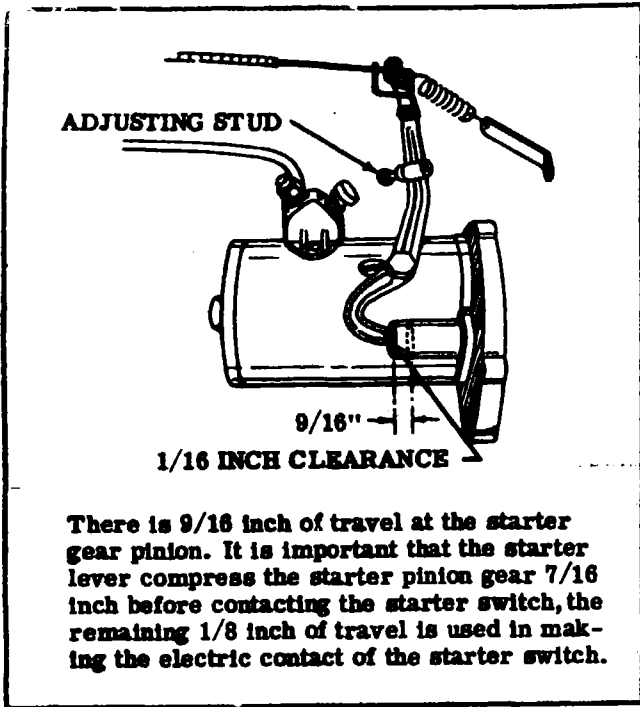

Figure 12-1. Starter Lever Adjustment
4. Starter control at starter. See figure 12-1.
j. Rig control and starter adjusting stud to obtain the travel and clearance specified in figure 12-1.